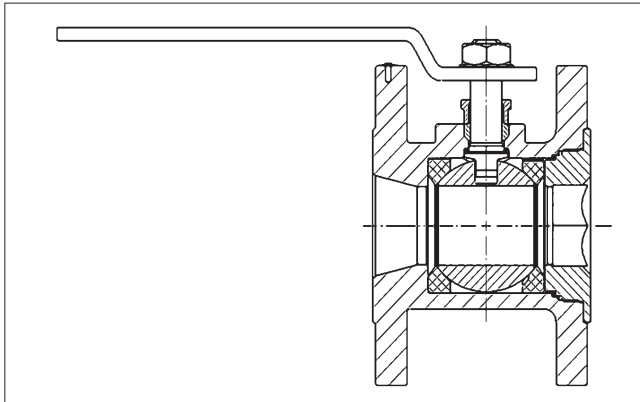

Figure 2. 1" (DN 25) & 2" (DN 50) 7RRR
6. Insert the stem (4) with the bearings into the valve body and through the stem bore in the body, as shown in (**Figure 2, 3 or 4**). Press it gently up into the stem bore until resistance is felt from the lower stem bearing. Be careful not to scratch or damage the seals.
16. Install handle (17), lockwasher (19) on the stem (4), matching the flats on the stem and handle. The handle should be in the orientation as shown in **Figure 2, 3 or 4** in the closed position. Thread handle nut (16) onto the stem and tighten per **Table 2**.